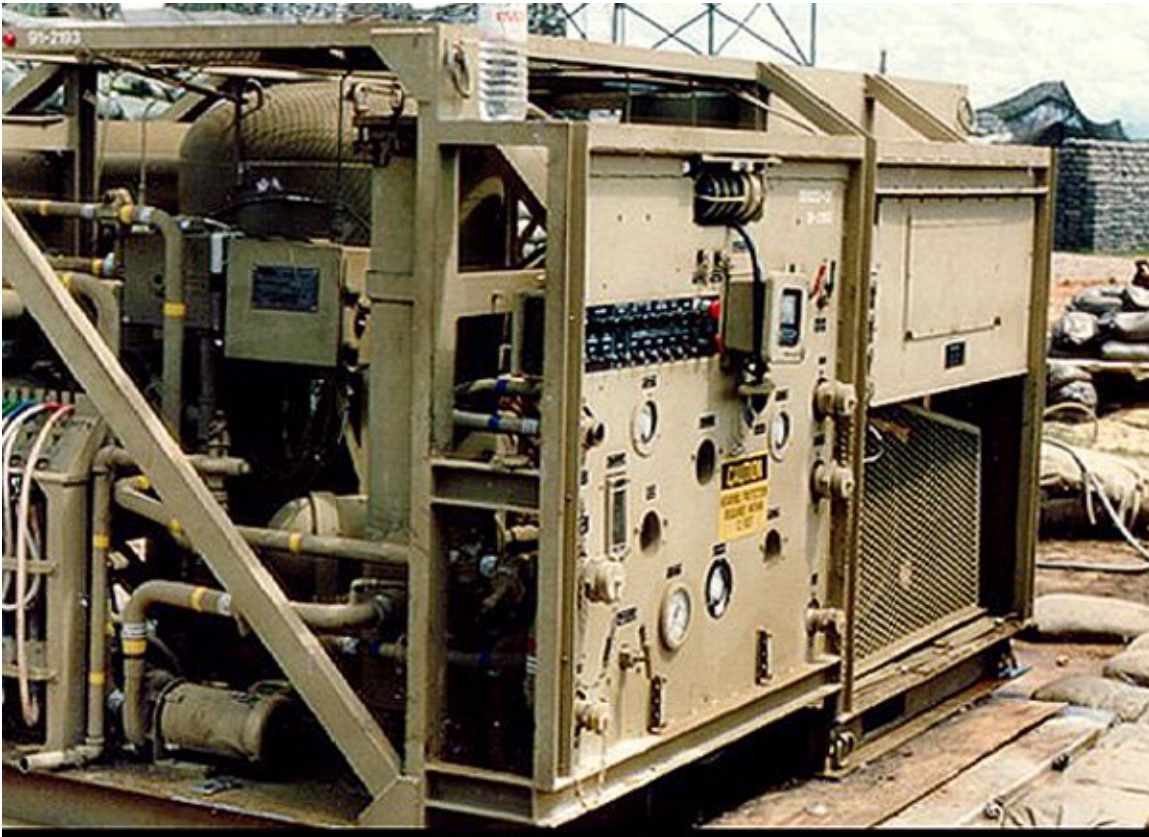

Figure 1. Reverse Osmosis Water Purification Unit (ROWPU) WPES-20 Model
1. Background: The Reverse Osmosis Water Purification Unit (ROWPU) is a deployable water treatment facility designed to provide potable water to an air wing in field conditions. The ROWPU can produce potable water from nearly any water source, including seawater. Raw water is pumped from the raw water bladders to the treatment complex. After treatment, potable water is then pumped to the potable water storage bladders. It provides purified water for, showers, laundries, and kitchens. (See Figure 1.)